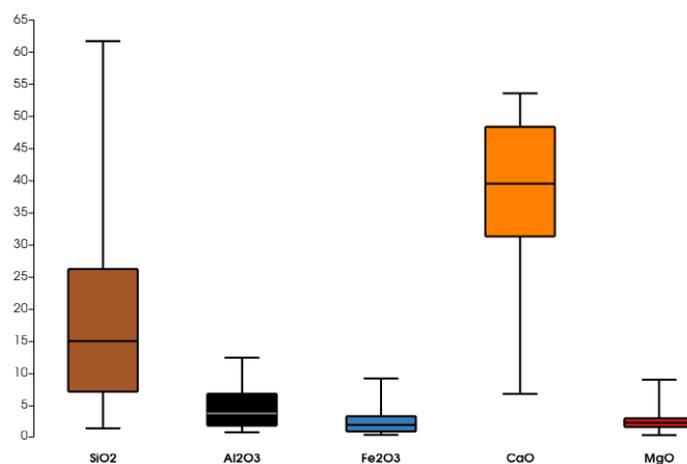

Fig. 2.28: Box chart example.
**Box Charts** are a useful way for the visualization of more than one attribute - see Fig. 2.28.